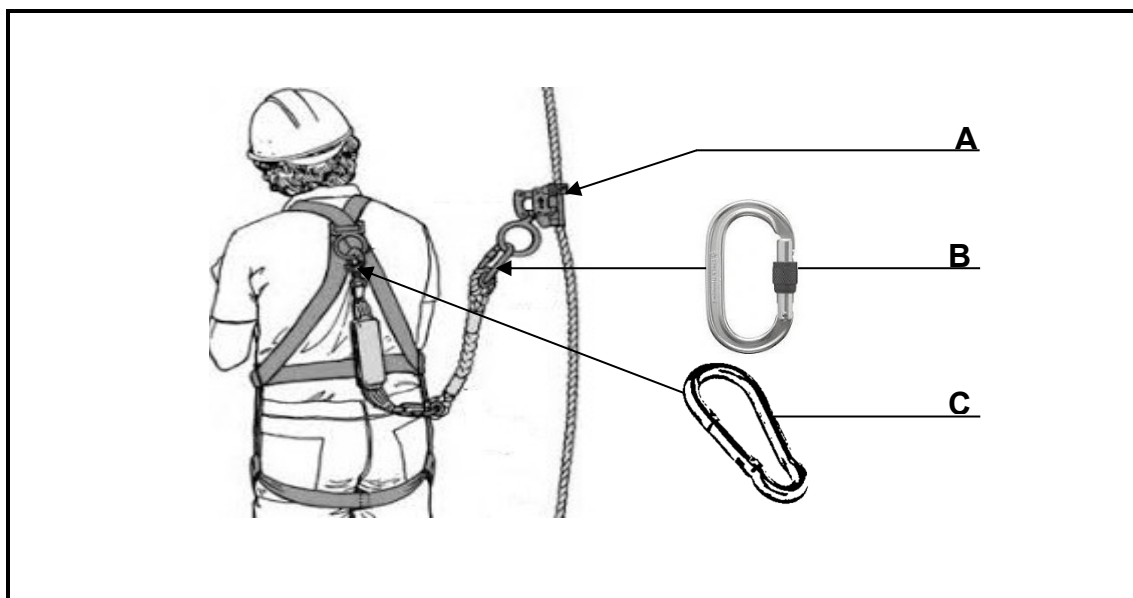

FIGURE 3.3
- Identify parts **A** to **C** in the safety harness appliances in FIGURE 3.3. (3 x 1) (3)
- 3.4 Name TWO safety methods for manholes when the covers have to be removed. (2 x 1) (2)